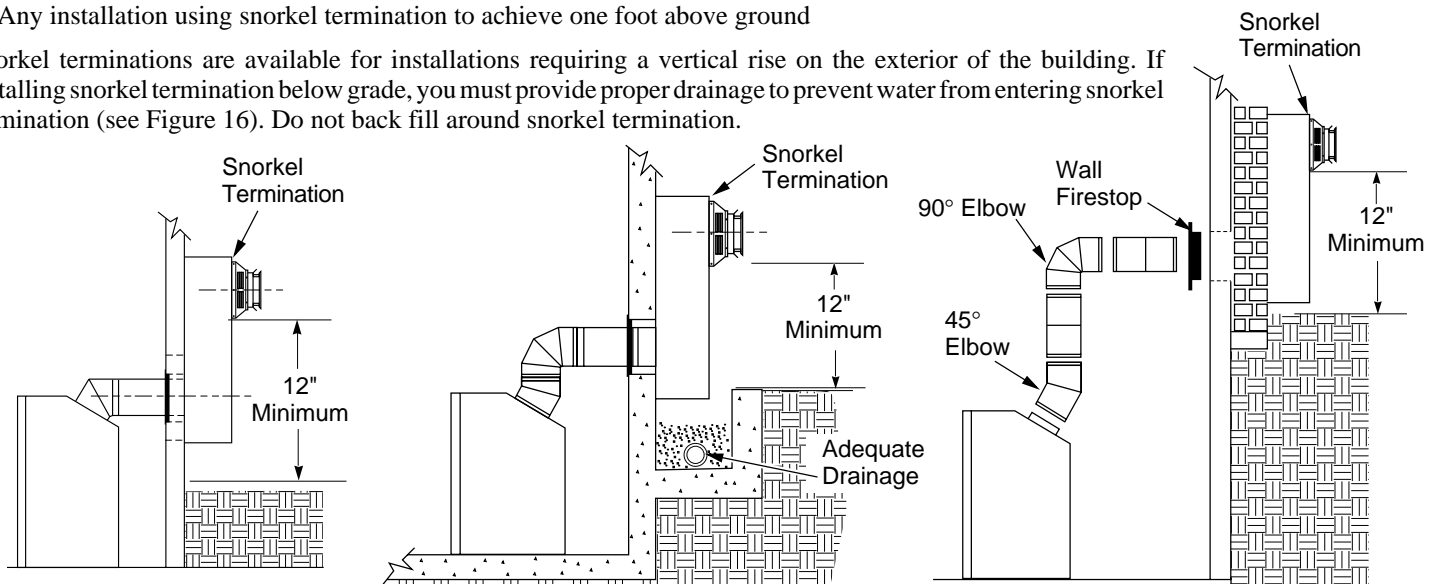

Figure 16 - Snorkel Termination Configurations for Below Ground Installation
- Snorkel terminations are required when minimum clearance to grade cannot be met (see Figure 16 on page 11).
Snorkel terminations are available for installations requiring a vertical rise on the exterior of the building. If installing snorkel termination below grade, you must provide proper drainage to prevent water from entering snorkel termination (see Figure 16). Do not back fill around snorkel termination.